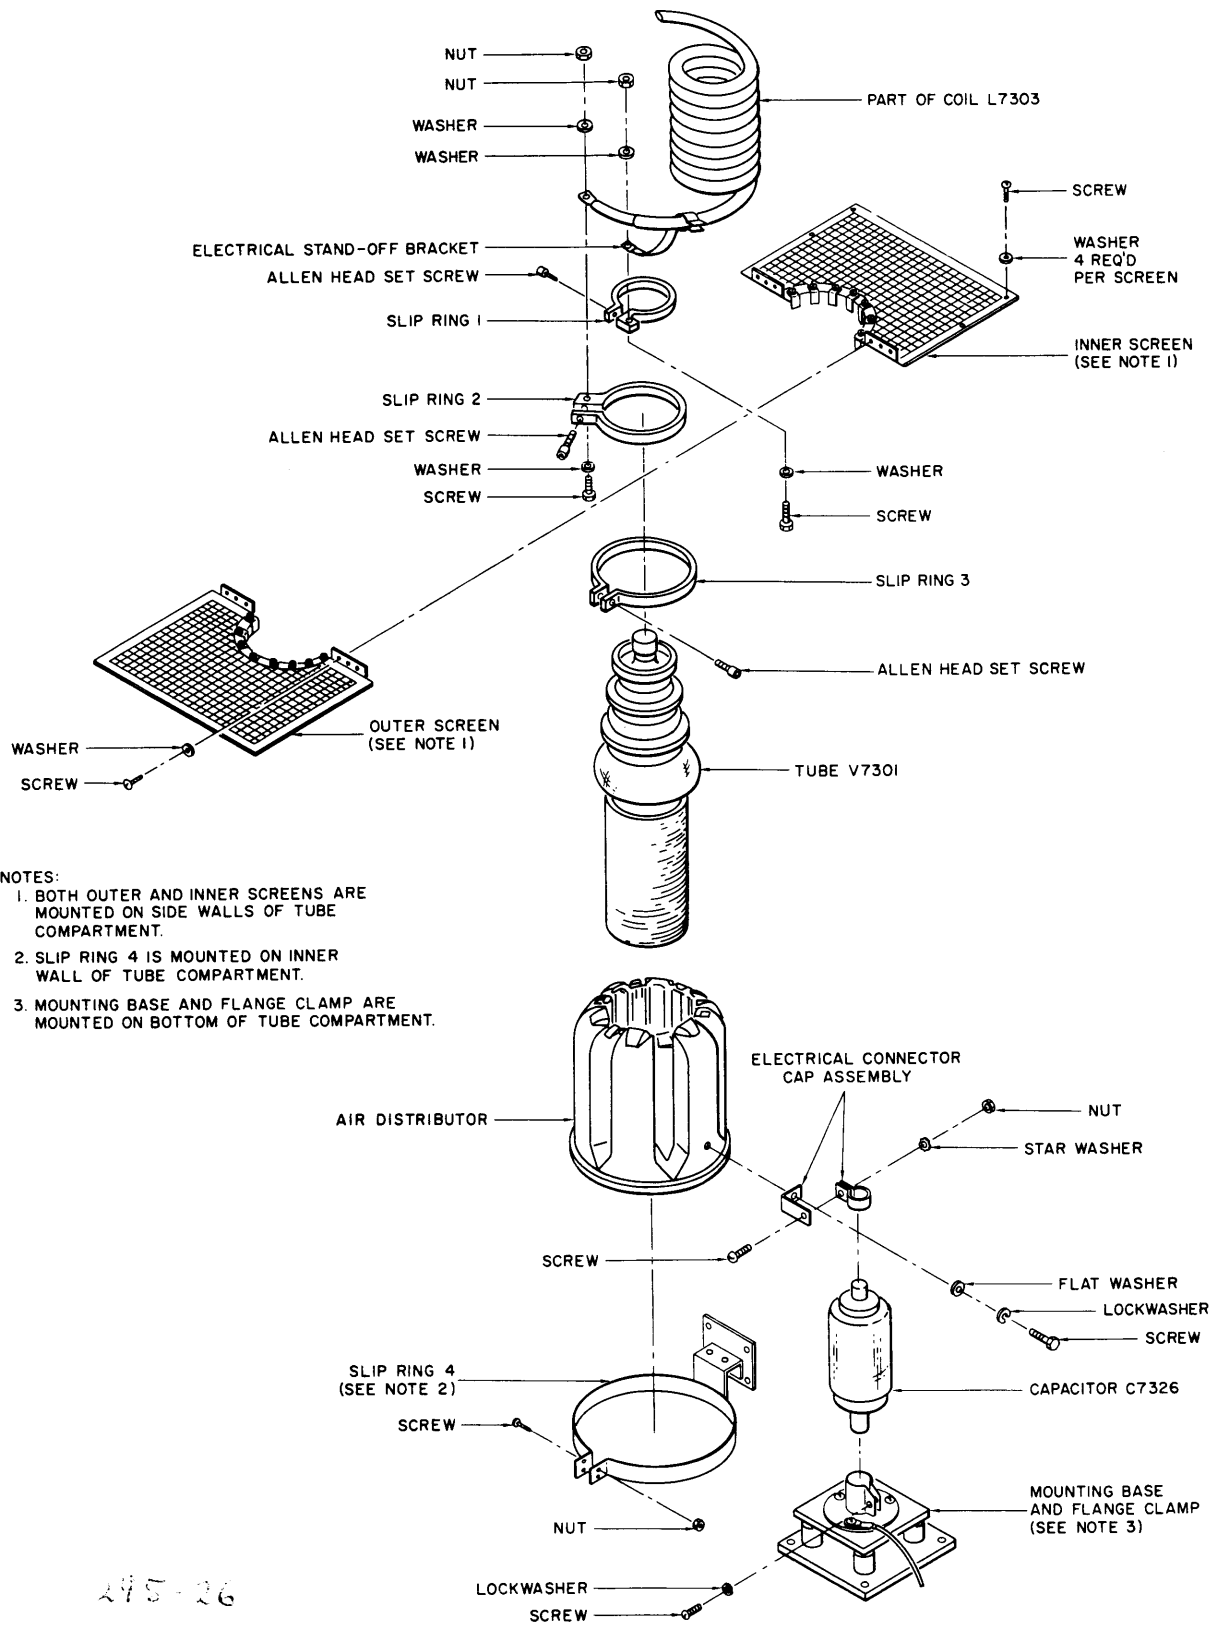

Figure 2-26. Third Frame Pa Tube Compartment, Installation Diagram.
- b. Temporarily remove hardware retaining inner screen, figure 2-26, to walls of tube compartment.
- c. Temporarily remove hardware from slip ring 4; and then remove the heat sink, figure 2-26, from tube compartment.
(2) Mount the resultant door latch assemblies on top and bottom, front and rear, of frames (see figure 2-26).